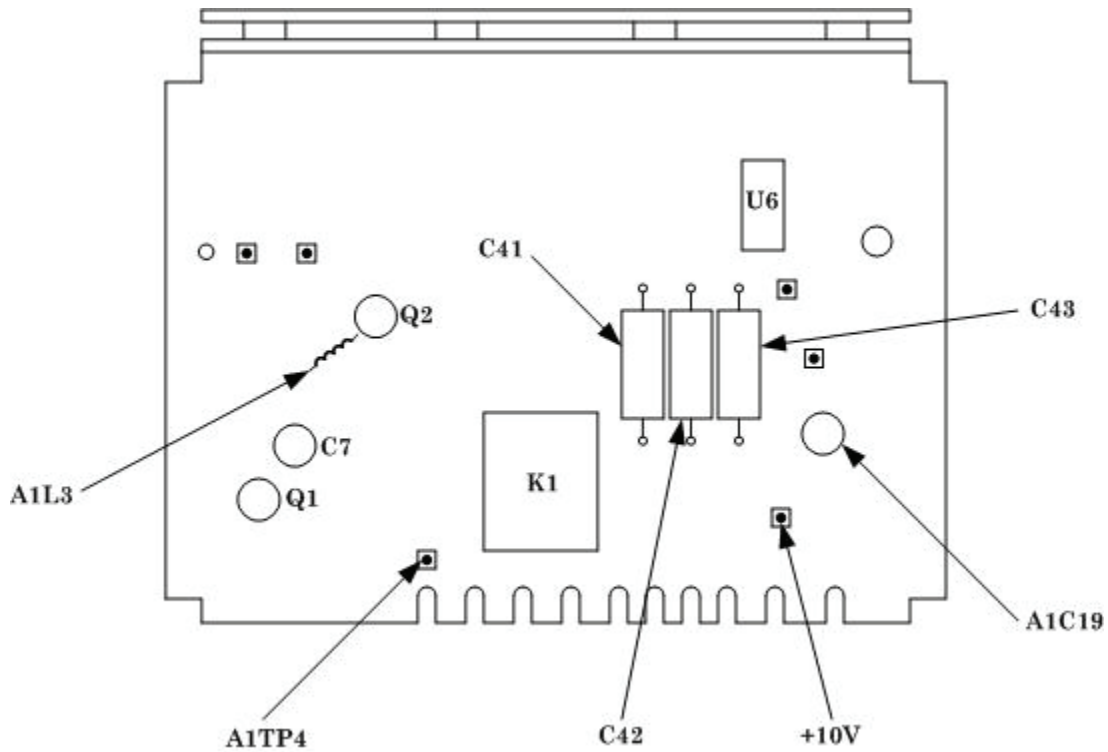

Figure 1. Calibration fixture - adjustment and test points.
- (1) Connect multimeter to A1TP4 (fig. 1), and chassis ground.
- (2) Set **TEST MODE** switch to **AM** and adjust **CARRIER FREQUENCY TUNE** control for a -4.60 V dc indication on multimeter.
- (3) Unsolder loop A1L3 (fig. 1) and slide it in or out until measuring receiver indicates 400 MHz. Resolder loop A1L3 (fig. 1) (R).